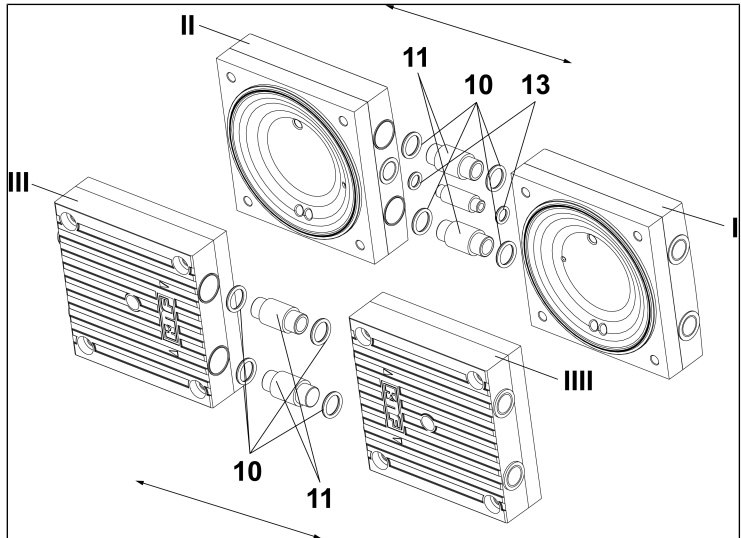

Fig.10: Removal of the O-rings and connection pipes
- Pull heads 1 (I/Fig. 10) and 2 (II/Fig. 10) apart and remove the O-rings (10/Fig. 10) and (13/Fig. 10).
7. Place the O-rings (10/Fig. 10) and (13/Fig. 10) on the connection.
8. Press heads 1 and 2 (I and II/Fig. 10) together.